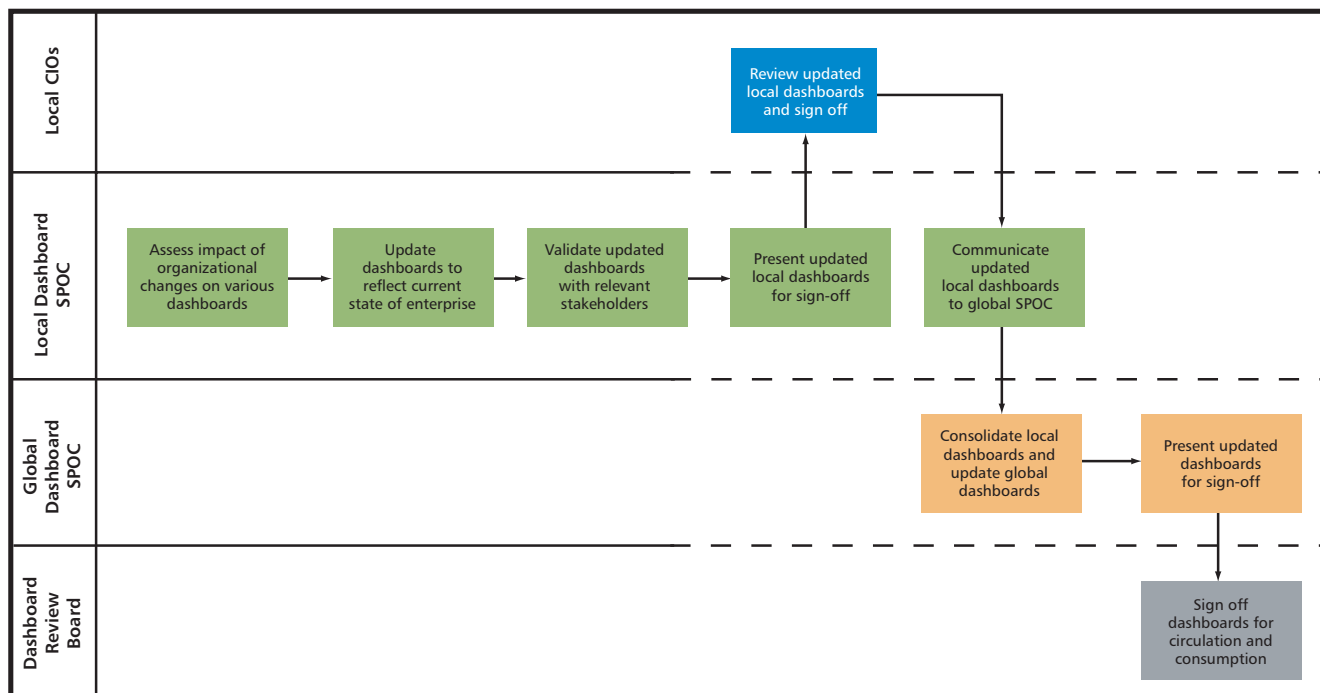

Figure 5 — Dashboard maintenance/refresh process.
2. Dashboard maintenance/refresh (see Figure 5)